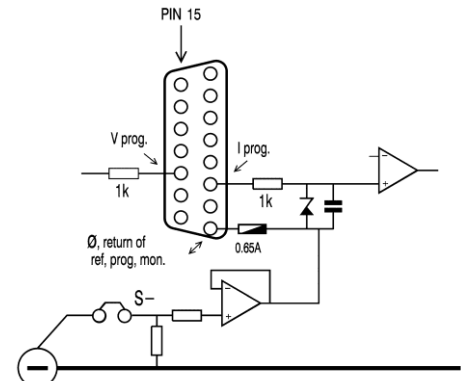

fig 3 - 4
- For the other units, the inputs have a protection circuit formed by a series resistor and a parallel zener (see fig. 3 - 4). The capacitor limits the speed to a safe value. **Note that the analog inputs (and outputs) are not floating, but the common is connected to the 'minus' DC output terminal.** Wrong connection of Ø can cause earth loops which can trip the fuse. After removing the fault, the fuse will reset (PTC-fuse). For isolated programming see next paragraph.